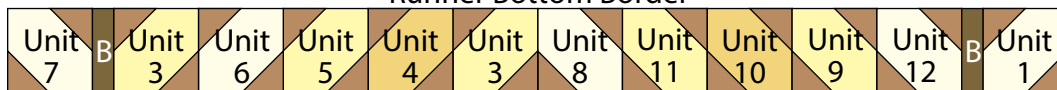

Fig. 26
15. Repeat Step 14 and refer to Figure 26 below for component identification, placement and orientation to make the Runner Bottom Border.